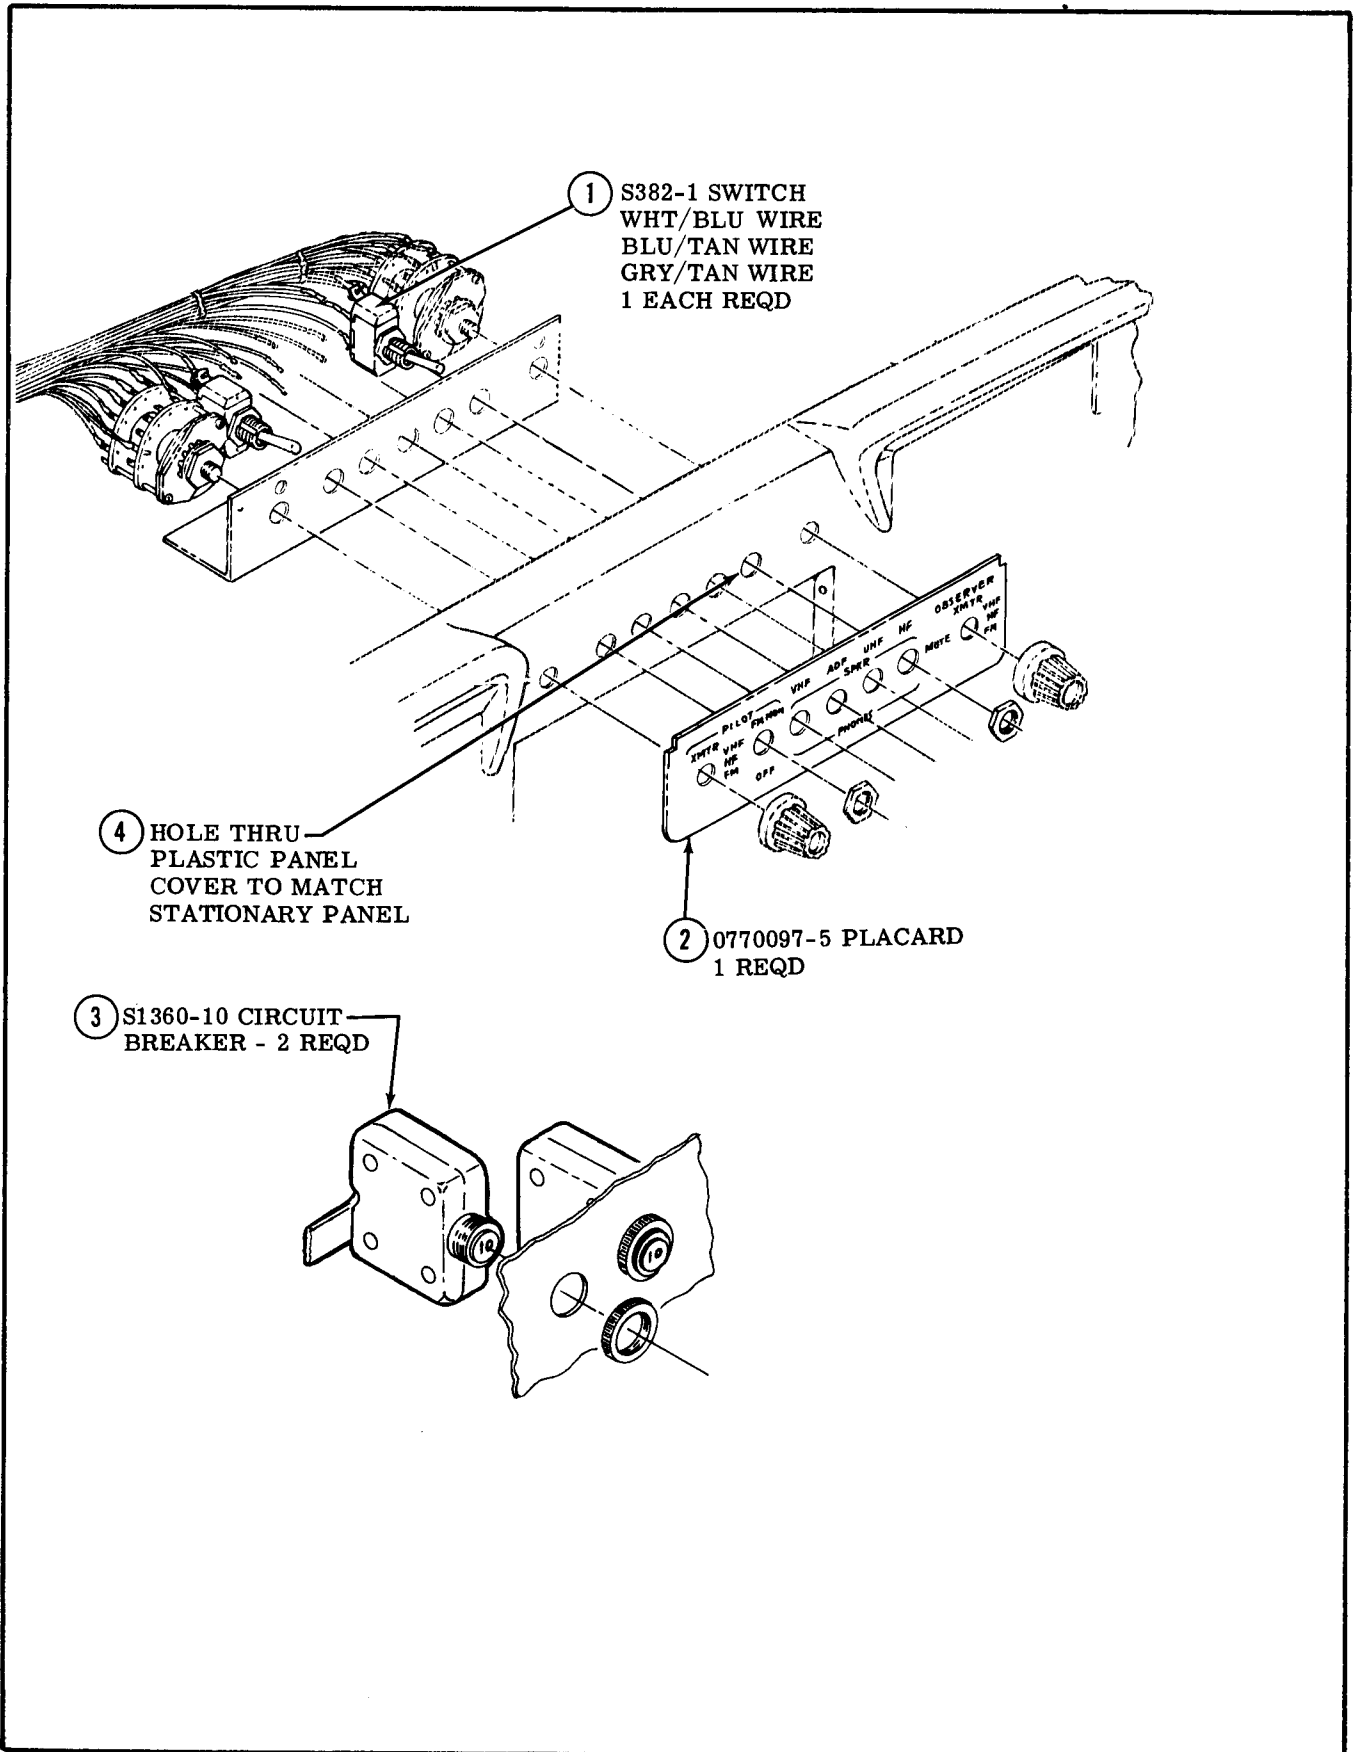

Figure 2. Transmitter and Audio Selector Switch System Modifications
- (5) Remove upper plastic cover over instrument panel on right hand side.
- (6) Remove map case and map case door.
- (7) Remove radio remote units from shockmounts in tailcone. Cap or bag connectors for protection.
- (8) Disconnect negative (-) lead from battery terminal to prevent short circuits and subsequent damage to aircraft.
- (9) Remove fairings from both sides of vertical fin root.
b. Modification of transmitter and audio selector switches (Refer to figure 2).
- (1) Remove knobs and retention nuts from the transmitter and audio selector switches as required to gain access to the wiring on the back side of the switches. Discard old placard.
- (2) Cut hole (4) through the plastic cover over the existing hole which will accommodate the H. F. audio selector switch (1) to be added.
- (11) On waffer (5), insure that two blu/tan wires connect to the wiper contact; one wire connects to waffer (E) wiper, other wire routes to H. F. audio selector switch location (to be added later).
- (12) On waffer (6), insure that two tan wires connect to the wiper contact; one wire routes to the F. M. audio selector switch, other wire connects to waffer (F) wiper.
- (13) Insure that a blu/yel and a wht/blu wire connect to waffer (C), position 1, along with a jumper which connects to waffer (D) position 1; waffer (E), position 2; and waffer (F), position 3.
- (14) Insure that a wht/yel wire connects to waffer (3), position 1, along with a jumper which connects to waffer (4), position 1; waffer (5), position 2; and waffer (6), position 3.
- (15) The audio isolation amplifier for speaker operation is a part of the ARC 302 transceiver. The amplifier input wires are brought out of the 302 harness near the R-T unit in the panel. Locate a capped blu/tan wire emerging from this harness and splice a length of gry/tan wire to it with an S1370-1 splice. Route wire to H. F. audio selector switch location (to be added later).
- (16) Locate loose wires: wht/blu, from step 5; blu/tan, from step 11; and the gry/tan from step 15; and connect to the H. F. audio selector switch (1, figure 2) as shown in the wiring diagram.
- (17) Reinstall transmitter and audio selector switches in panel using new placard (2, figure 2) in place of old one.